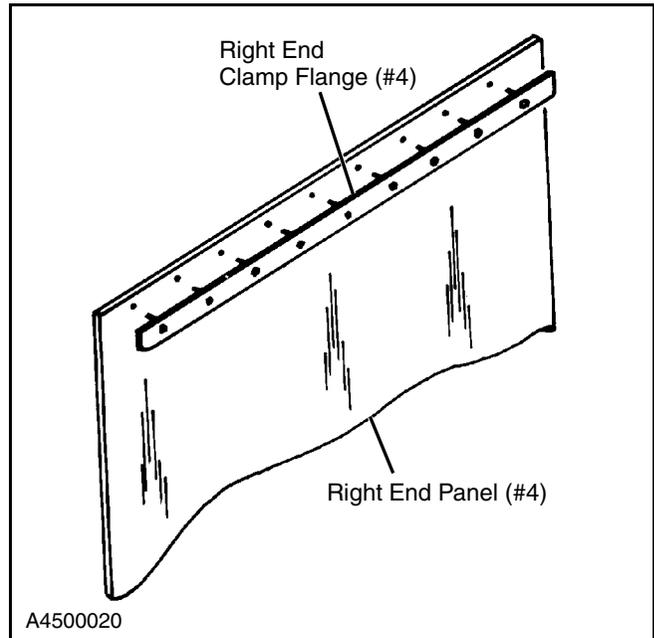

Figure 28
1. Insert the studs on the right end clamp flange (#4) through the holes in the upper edge of the right end panel (#4). (See Figure 28.)